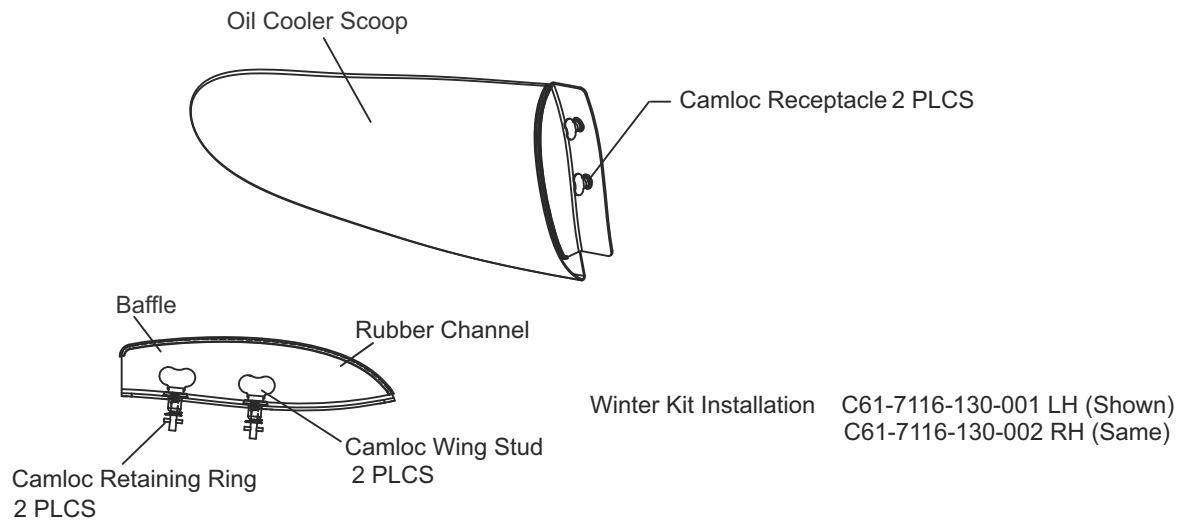

Figure 4 - Winter Kit Installation
An Optional Winter Kit can be installed on lower cowl assemblies P/N C61-7116-104-005 (LH) and P/N C61-7116-104-006 (RH). Refer to Figure 4.